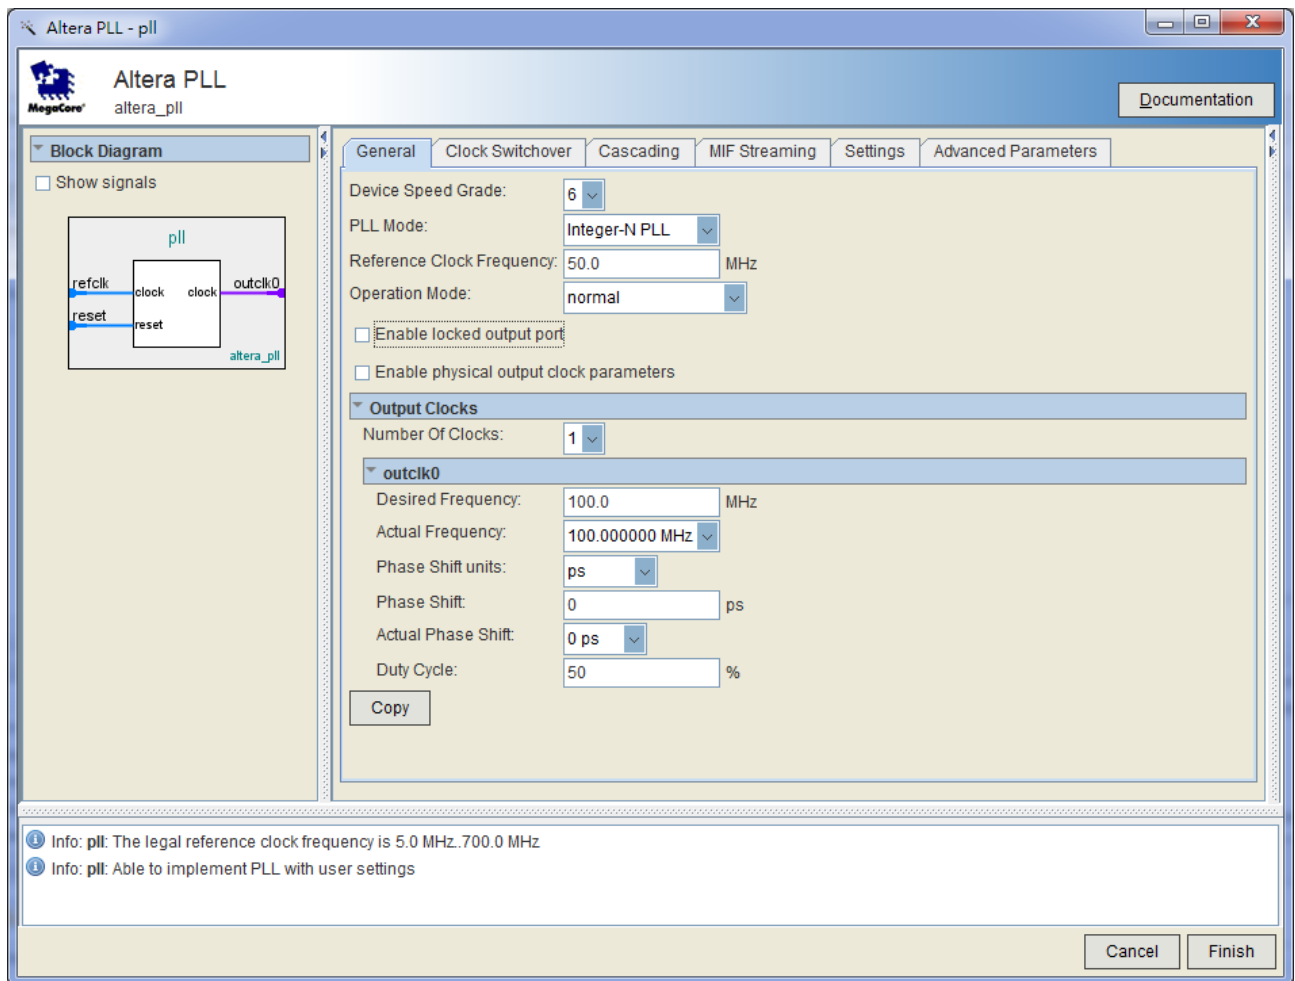

Figure 3-11 Selections of Altera PLL windows
- Turn off the Enable locked output port option on IP windows. As you turn it off, pin disappear from the PLL block's graphical preview. See Figure 3-11 for an example.